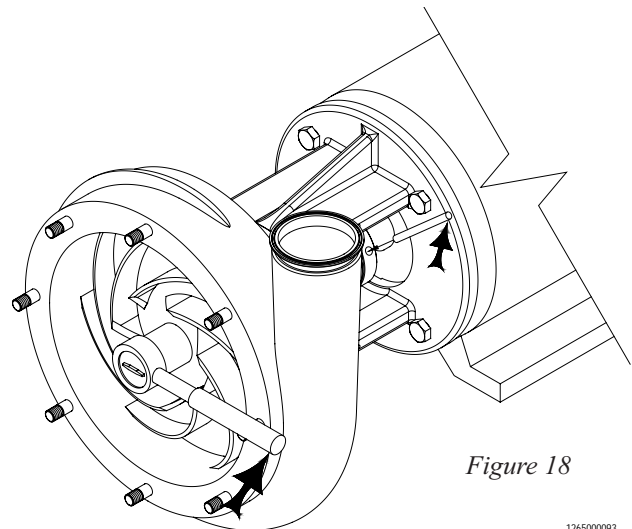

Figure 18
- Remove the cover nuts (25) with the 15/16" socket.
- Remove the pump cover (24) and the cover gasket (21).
- Remove the guard nuts (3) and remove shaft guards (4).
- Place a 5/16" diameter rod in a hole in the shaft (7). Hold the rod to keep the shaft from rotating while loosening the impeller nut (23) with the 1 1/4" socket wrench (*Figure 18*).
- Remove the impeller nut and impeller nut gasket (25).
- Remove the impeller (22) from the pump shaft (7) by grasping an impeller blade in each hand and pulling the impeller toward you.
- After the impeller is removed, place it on a clean flat surface with the blades facing down. The rotating seal is located in hub of the impeller. Remove and discard the rotating seal (33), o-rings (25 & 41) and wave spring (34).
- Next remove and discard the stationary seal (19) by pushing on back of seal and sliding it forward out of the housing.